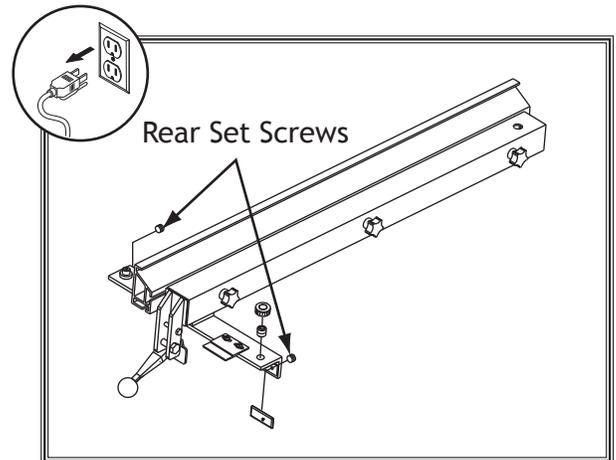

Figure 114. Location of screws used to adjust fence parallelism and clamping pressure.
3. Back out rear set screws until they are just threaded into fence flange (see **Figure 114**).
3. Turn each rear set screw (see **Figure 114** on **Page 72**) in $\frac{1}{6}$ of a turn. Glide pads on fence should just touch fence tube.